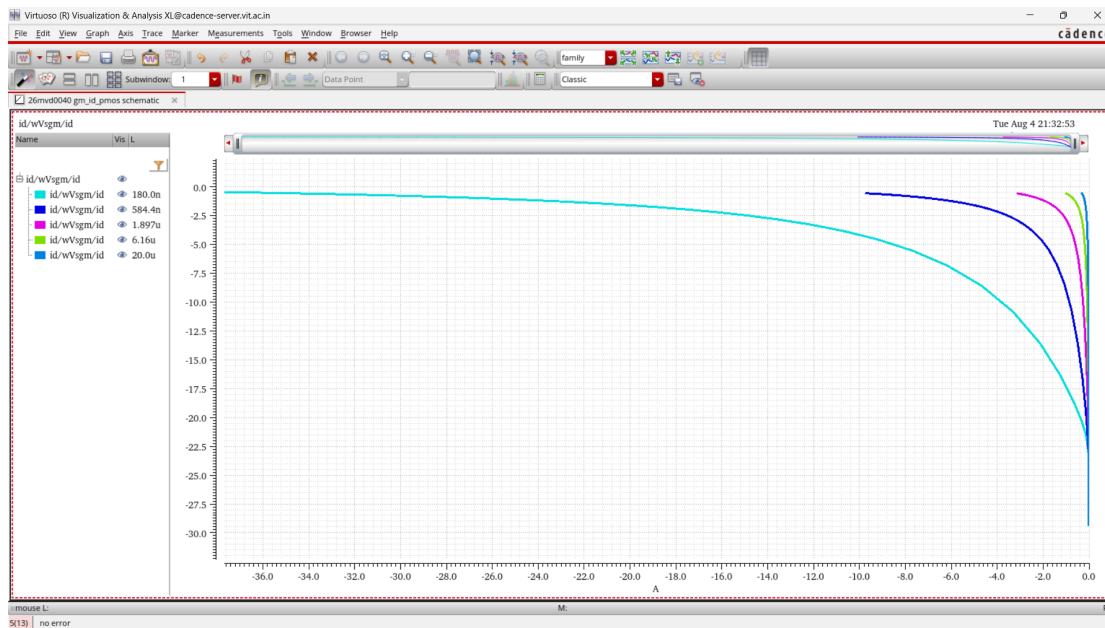

Figure 10: I_D/W v/s g_m/I_D for varying length plot for PMOS.
16. The simulation window opens with the plot of I_D/W v/s g_m/I_D for varying length as shown in Figure 10.